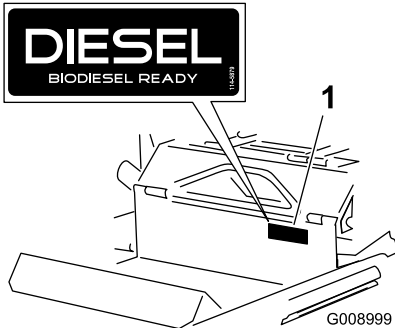

Figure 12
4. Clean the existing front decal and the area around it and let it dry (Figure 12).
5. Install the new diesel decal over the existing one. See Figure 12.